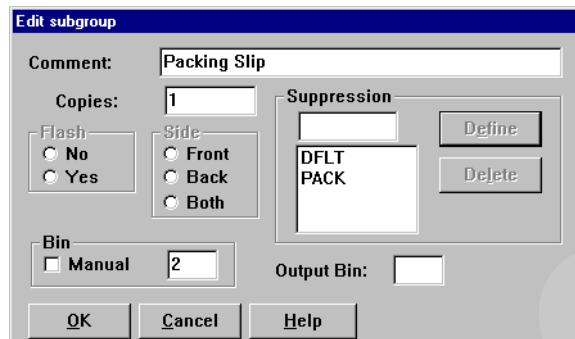

Figure 27. Edit subgroup
- a. Right-click the icon for the subgroup. The Edit subgroup dialog displays, as shown in Figure 27.